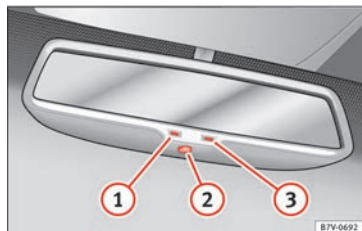

Fig. 146 Automatic anti-dazzle function for rear vision mirror
Key to **Fig. 146**:
- ① Control lamp
- ② Control
- ③ Light incidence sensor
This function can be activated and deactivated by pressing the rear-view mirror switch » Fig. 146 ②. When it is activated, the warning lamp lights up ①.